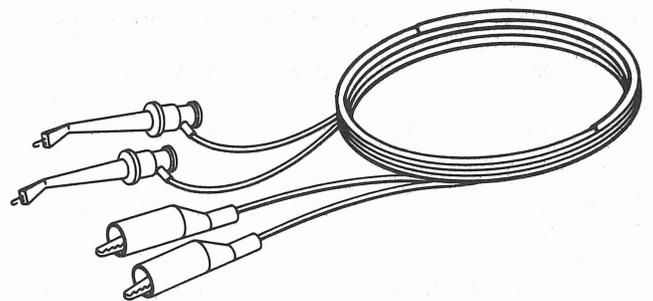

Figure 31. Single Pair Test Cord With Mini Test Clips
15.01 This test cord attaches to wire-wrap terminals or quick-clip terminals to make tests on the tip and ring lines of a pair (see figure 31). Two mini test clips at one end of the cable clip onto the terminals of the pair. The other end of the test cord is terminated with alligator clips for connection to test equipment. Use the single pair test cord as follows: